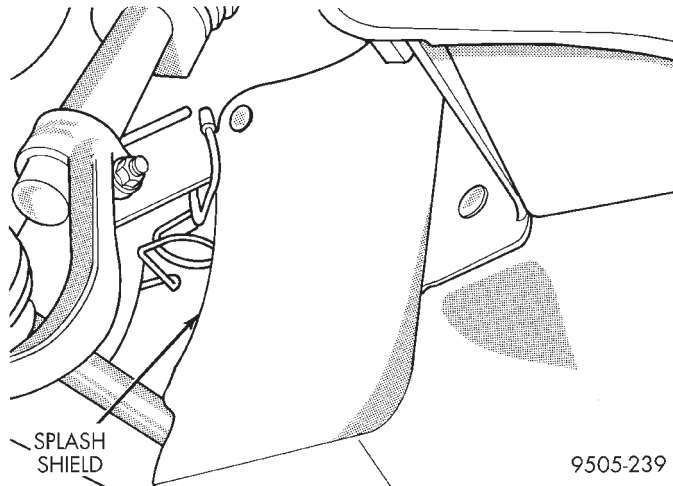

Fig. 25 Accessory Drive Splash Shield
- (1) Remove battery cable from (-) negative post on battery and isolate cable.
- (2) Siphon as much power steering fluid as possible out of the remote power steering fluid reservoir.
- (3) Raise vehicle.
- (4) Remove right front tire from vehicle.
- (5) Remove accessory drive splash shield (Fig. 25) from the right front wheel well.